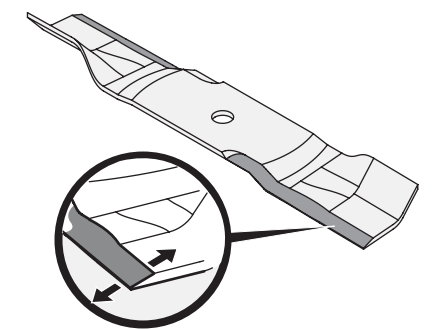

Figure 4-24
3. To properly sharpen the cutting blades, remove equal amounts of metal from both ends of the blades along the cutting edges, parallel to the trailing edge, at a 25°-30° angle. Always grind each cutting blade edge equally to maintain proper blade balance. See Figure 4-24.